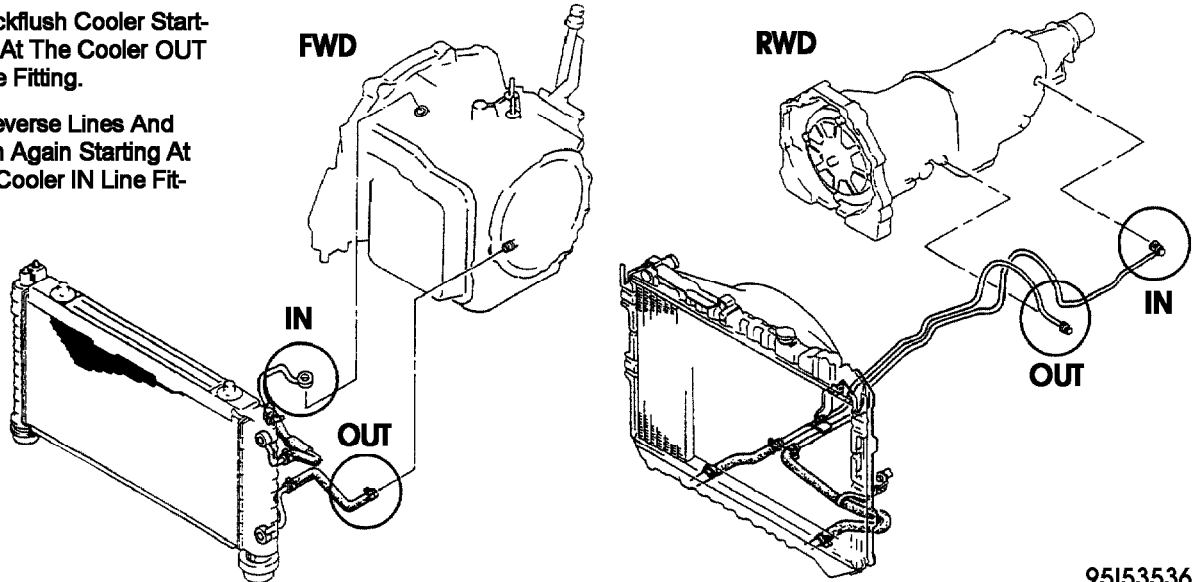

Fig. 1: Transmission and Cooler View
2. Reverse Lines And Flush Again Starting At The Cooler IN Line Fiting. See Fig. 1